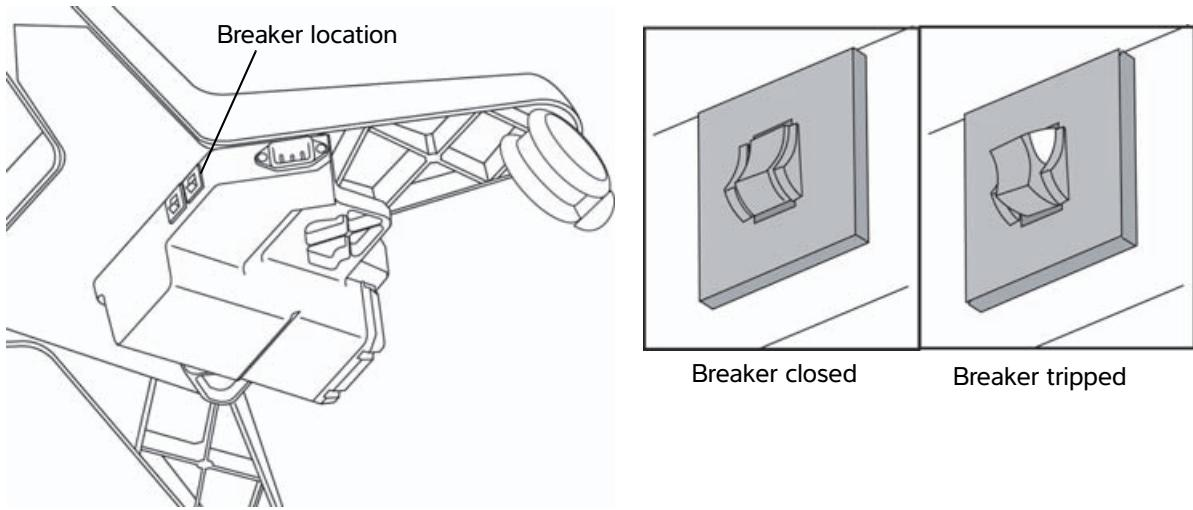

Figure 5 The stand-module circuit breakers are on the stand's underside.
- 3** Press in on each circuit breaker switch until it closes. See Figure 5 on page 7.